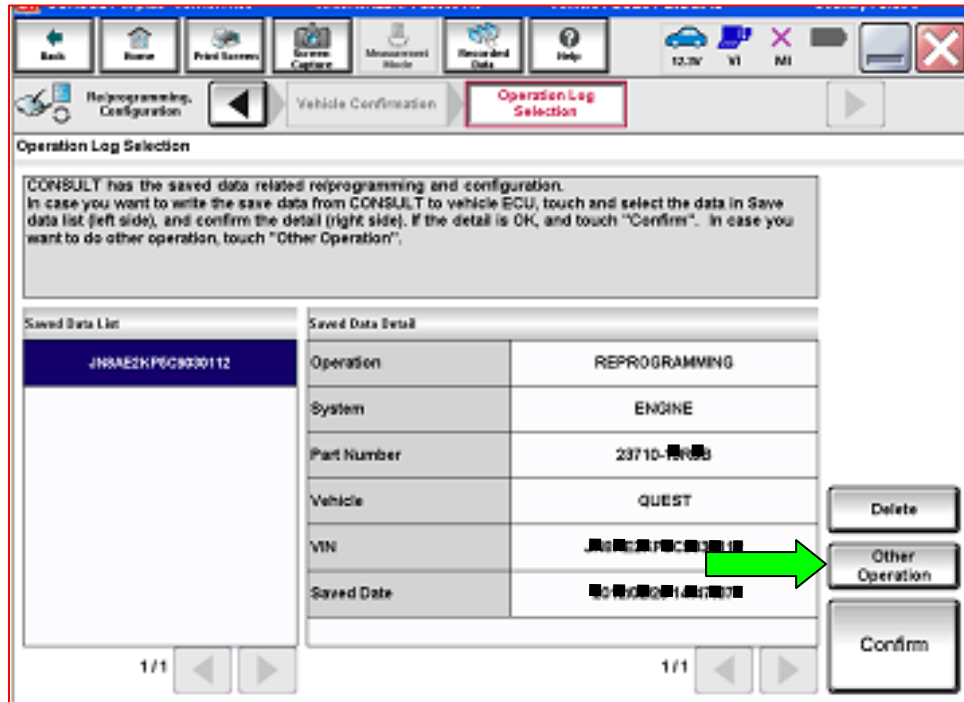

Figure 8
- If the screen in Figure 8 displays, select **Other Operation**, and then go to step 20.